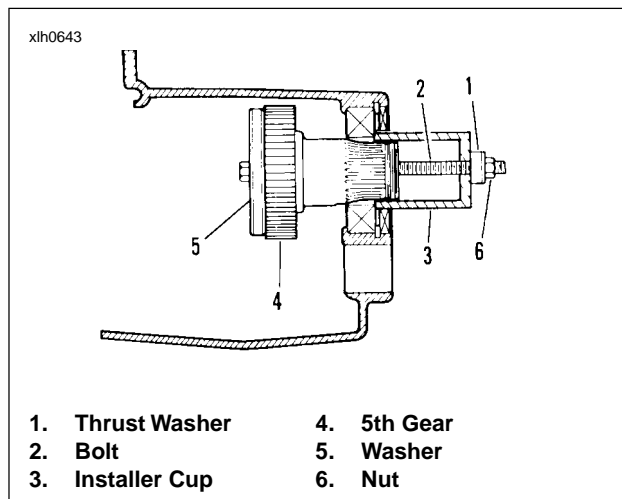

Figure 6-53. Main Drive Gear Installation
- See Figure 6-53. Use MAIN DRIVE GEAR REMOVER AND INSTALLER TOOL for assembly.
- Take bolt (2) and place washer (5) followed by main drive gear (4) over end of bolt.
- Insert threaded end of bolt (2) through installer cup (3) and thrust washer (1).
- Thread nut (6) onto end of bolt (2). Tighten nut (6) until shoulder on gear (4) bottoms against inner race of bearing.